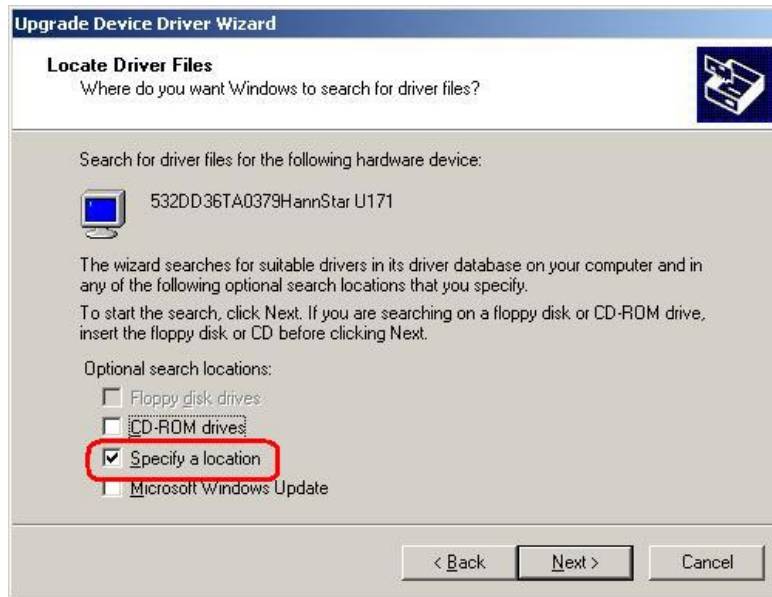

Figure 6-17: Locate Driver Files
Step 7: Select “Specify a Location” in the **Locate Driver Files** window (Figure 6-17).